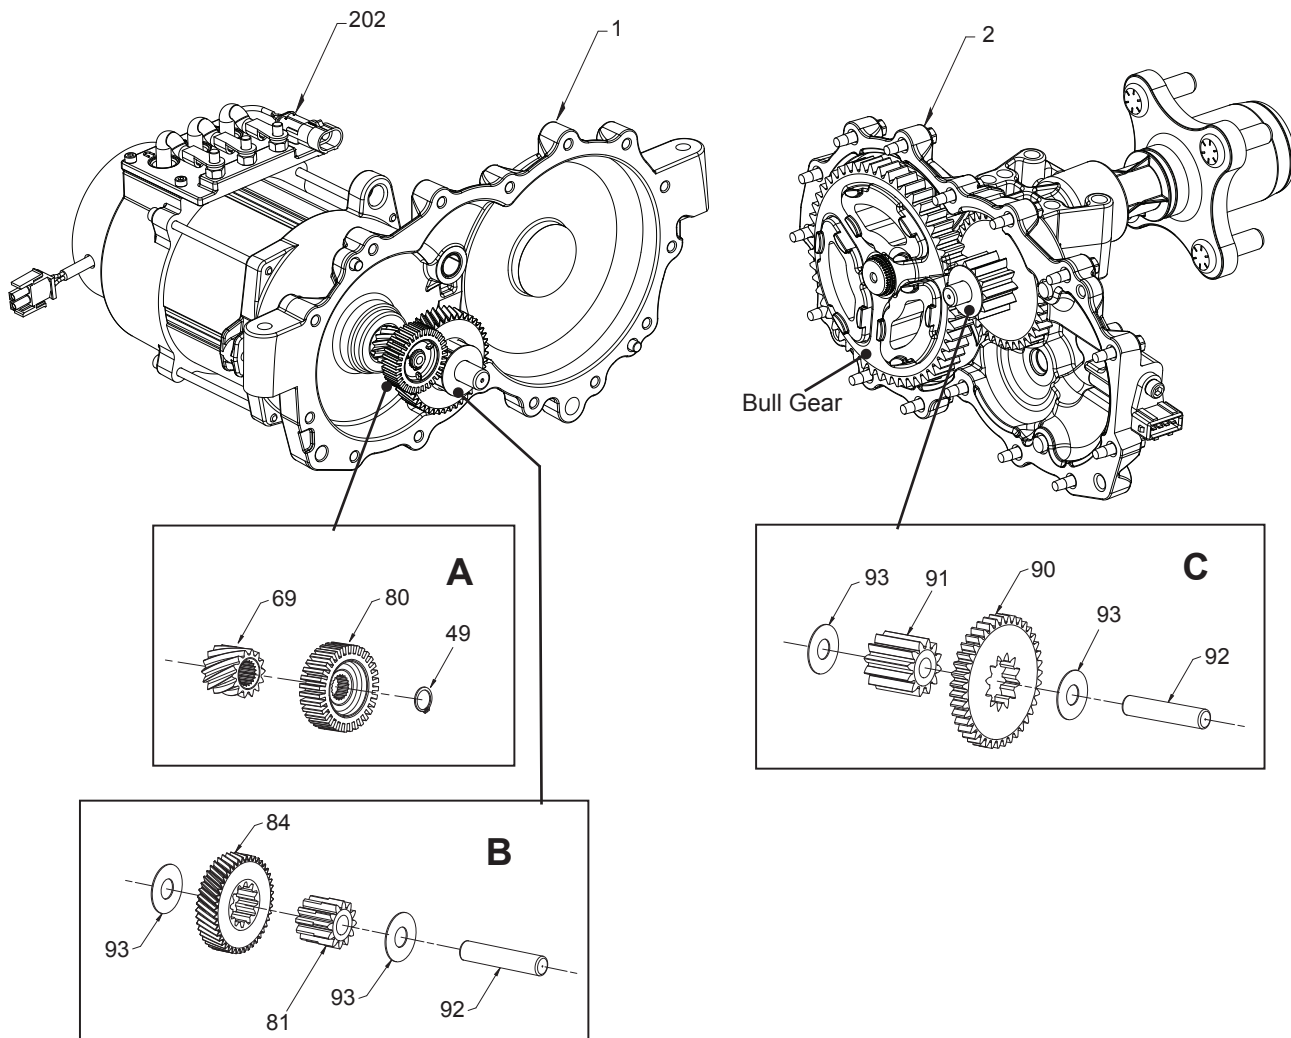

Figure 21. Servicing Without Hub Removal
Refer to Figure 21.
1. Assemble the axle shaft (103) and bull gear (15) assembly. Page 39
3. Install the drive motor (202), lip seal (50) and wave washer (51). Page 37
4. Install the sensor gear (80) and pinion gear (69). Page 36
5. Apply sealant to the main housing (1). Page 42 Figure 21
6. Install the side housing (2). Page 35
7. Install the axle seal (110) and retaining ring (109). Page 34
8. Install the speed sensor (67) and drain plug (16). Page 33
10. Install the oil fill plug (16). Page 33
11. Install the brake assembly (201). Page 32
12. Install the axle tube (143), hub assembly (207), locknut (142) and nut cap (144) onto the axle shaft. Page 31